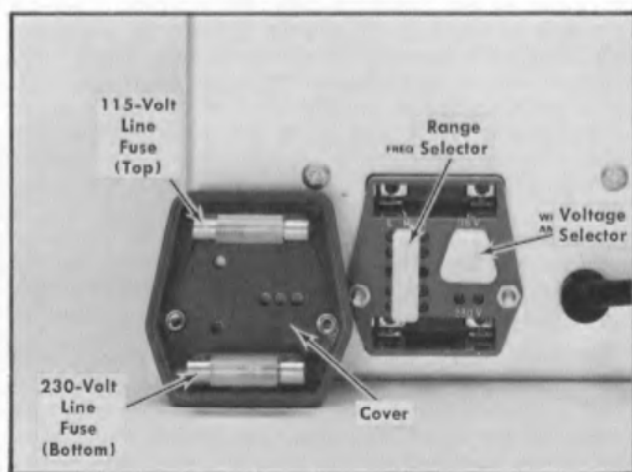

Fig. 2-1. Line Voltage Selector assembly on the rear panel (shown with cover removed).
3. To convert from 115 volts nominal to 230 volts nominal line voltage, pull out the Voltage Selector switch bar (see Fig. 2-1); turn it around 180° and plug it back into the remaining holes. Change the line-cord power plug to match the power-source receptacle or use a 115- to 230-volt adapter.
4. To change regulating ranges, pull out the Range Selector switch bar (see Fig. 2-1); slide it to the desired position and plug it back in. Select a range centered about the average line voltage to which the instrument is to be connected (see Table 2-1).